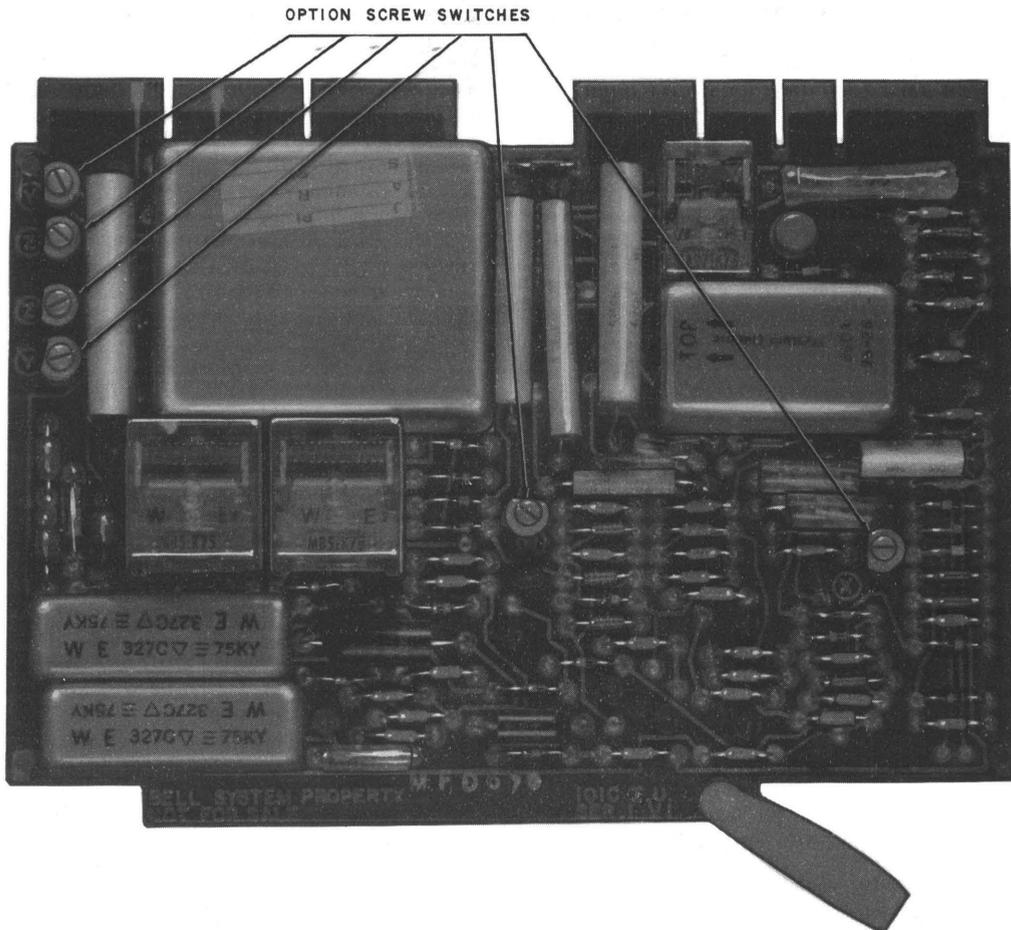
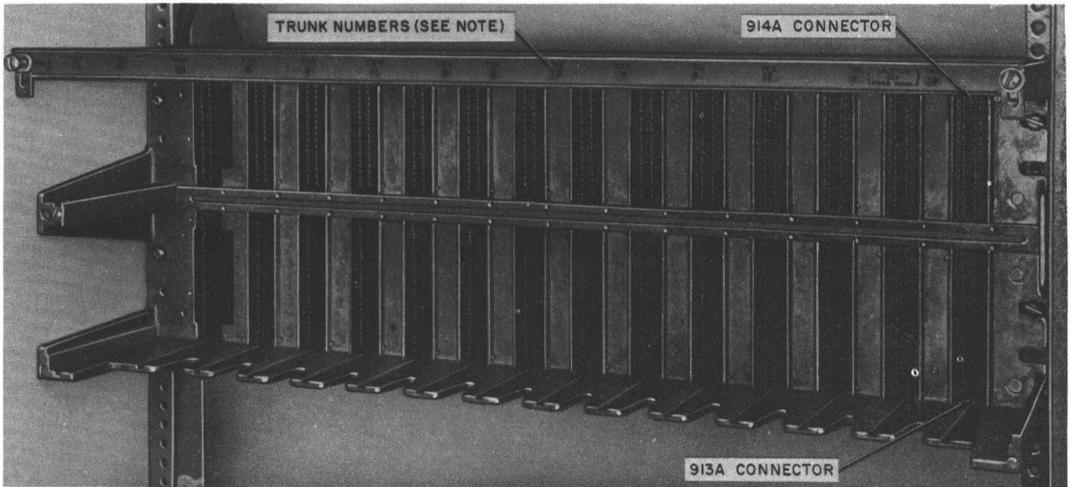
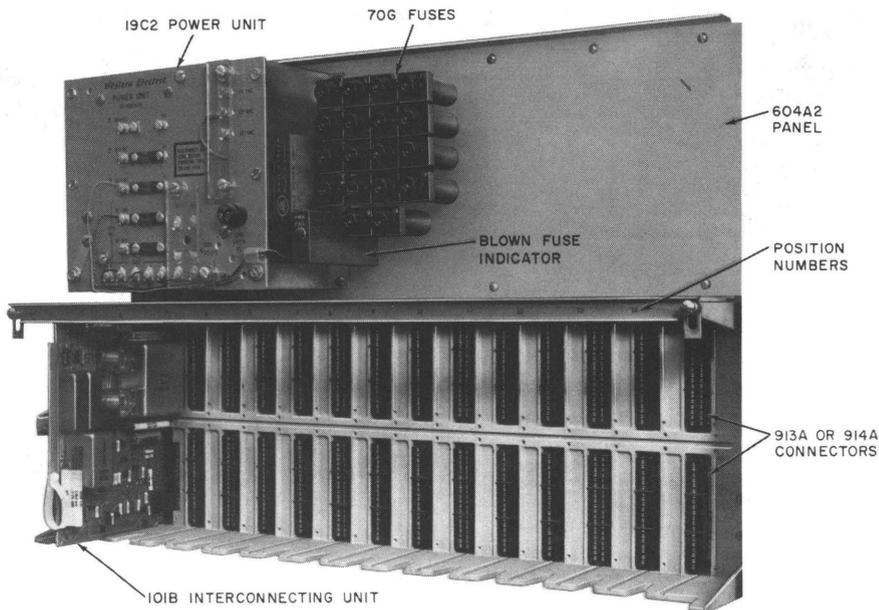

Fig. 1—101C IU
**Fig. 2—101B (MD) IU Mounted in 615A Panel**
Fig. 6—101B (MD) IU Mounted in 604A2 (MD) Panel
**1.04** The 101C IU (Fig. 1) is an improved version of the 101B (MD) (Fig. 2) and is the preferred unit for new installations and replacements. Existing installations with 101A (MD) and 101B (MD) IUs may be encountered in the field; do not replace these units unless they are defective. Furthermore, available stock of these MD IUs should be used if possible. Refer to Table A for a summary of the applications and limitations of the three 101-type IUs.
**Note:** In existing installations using pulse corrections, the 103A (MD) pulse corrector must be removed when replacing a 101A with a 101B or C.
**1.05** The 604B panel (Fig. 3 and 5) is now rated MD but may be used when available; an installed 604B should be replaced with a 604C (Fig. 3 and 4) only when defective. These conditions also apply to the MD rated 604A-type panel (Fig. 6).
- Unit, Interconnecting, 101C (one per CO trunk) (Fig. 1).
- Panel, 615A (includes fuse panel only, no power unit; mounts up to three 101-type IUs) (Fig. 2)
- Unit, Power, 19C2 (for 604A2 panel) (Fig. 6)